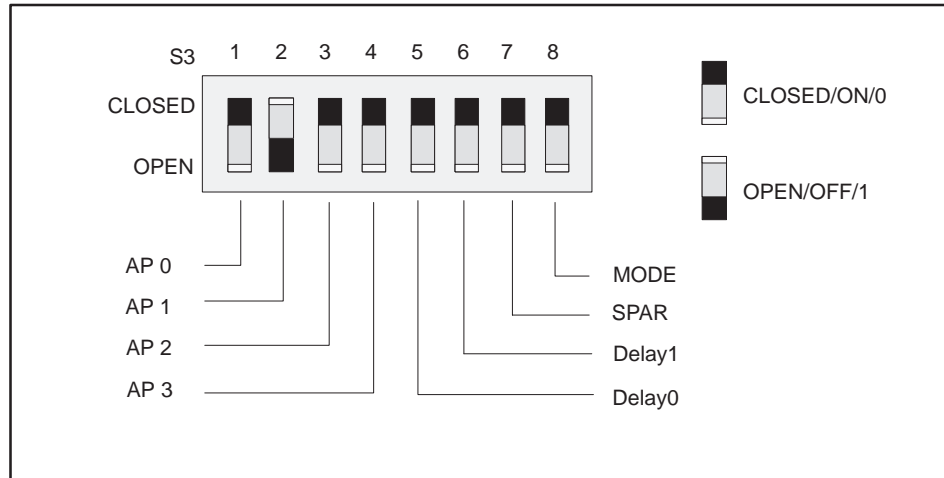

Figure 5-5 Field Interface Module S3 Dipswitch Settings
**Mode of Operation** The mode of operation, called the application, is determined by setting the S3 dipswitch, as shown in Figure 5-5. Switches S3-1, S3-3, and S3-4 are closed and switch S3-2 is open for the SAMMS Interface Application.
Dipswitch S3 assignments, shown in Figure 5-5, are defined as follows.